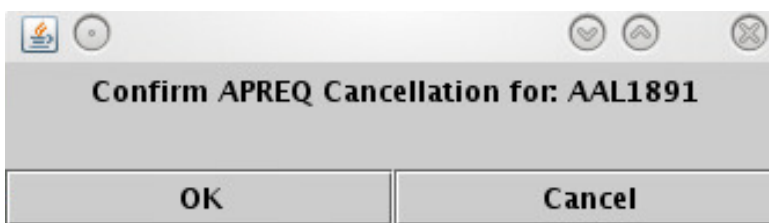

Figure 167. Pop-up Confirmation Window.
**Step 3:** Click “OK” on the confirmation window (Figure 167. Pop-up Confirmation Window).